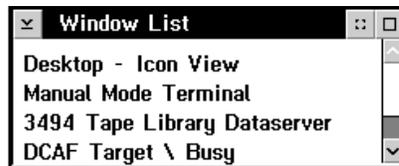

Figure 171. Window List
2. On the Window List, select the **DCAF Target \ Busy** option with the pointing device (Figure 171).